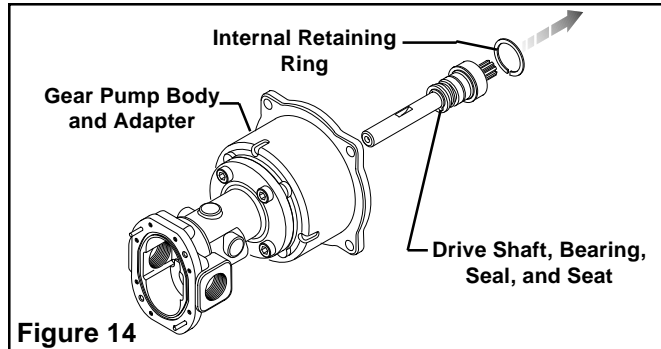

Figure 14
6. Remove the Internal Retaining Ring from the back of the Gear Pump Body (See Figure 14).
7. Press the Drive Shaft, Bearing, Seal, and Seat out of the Gear Pump Body and Adapter in the direction indicated (See Figure 14).